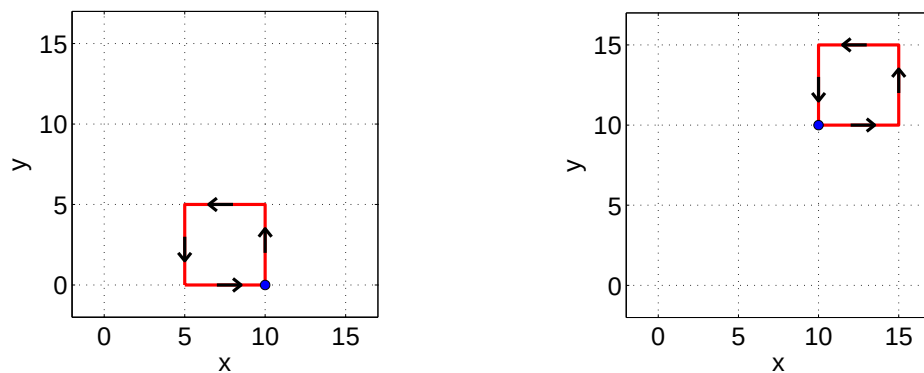

Figure 3: The Brockett integrator.
- Start again at $(10, 0, 0)$ and trace out a square by moving to $(x = 10, y = 5)$, then $(x = 5, y = 5)$, then $(x = 5, y = 0)$ and finally $(x = 10, y = 0)$. as shown at left in Figure 3. (Assume u or v is equal to either 0 or 1, as appropriate, to trace this shape.) What is the value of z at each “corner” of the path?
- Now, start at $(10, 10, 0)$ and trace the same size square, moving around the perimeter once again in a counter-clockwise direction, as illustrated on the right half of Figure 3. What is the values of z at each corner of this new path?